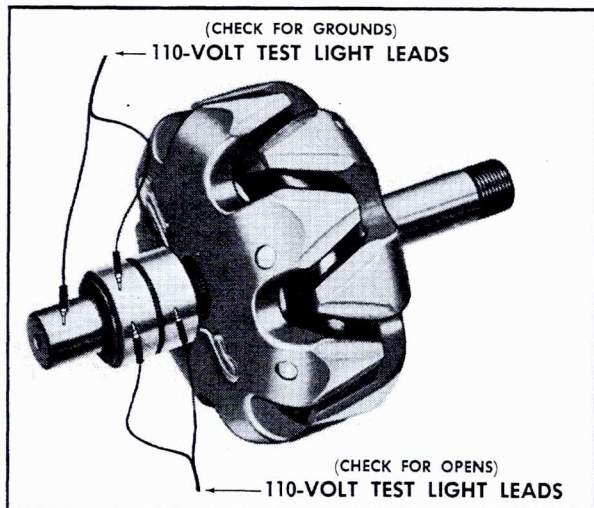

Fig. 6-31 Rotor Checking
1. Test rotor for grounds or opens with the aid of 110-Volt Test Lamp, Fig. 6-31.